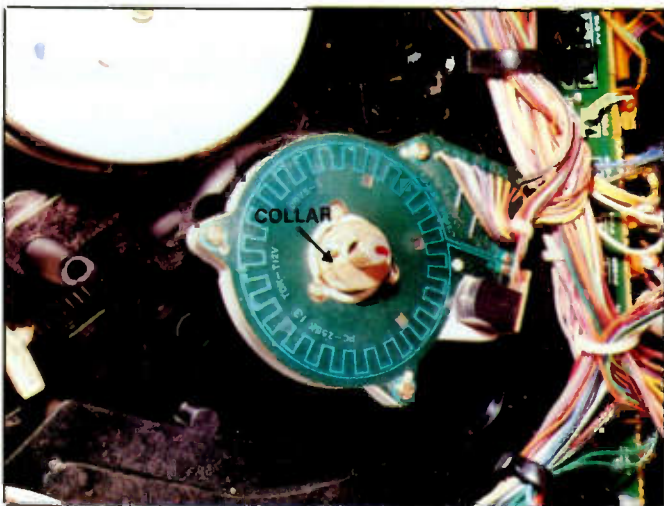

Figure 7. Remove the collar using an Allen (Hex) key.
9. Once the cover is removed you will see a collar (Figure 7) held in place by set screws. Use an Allen (Hex) key to loosen these set screws and remove the collar. At this point if the shaft was well lubricated the upper portion of the rotating transformer, which is secured on the other side of the shaft would probably pull the shaft down as this was the collar holding it in place. In this case where